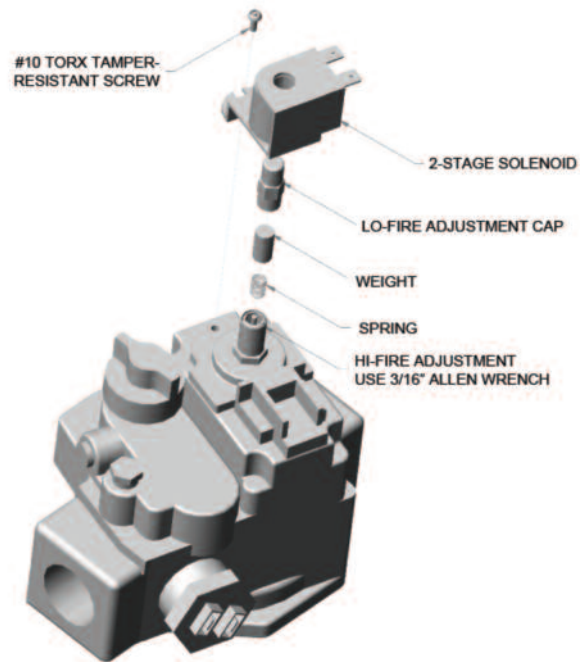

Fig. 33: 2-Stage Gas Valve Adjustment (Invensys)
5. Using a 3/8" wrench, carefully remove the aluminum cap that was under the solenoid valve-count # of turns when removing the cap. Be careful not to drop the cylinder (weight) or the small spring that is under the cap –see Fig. 33.
7. Using an Allen wrench, turn the screw clockwise to increase or counterclockwise to decrease high fire manifold pressure –see Fig. 33.